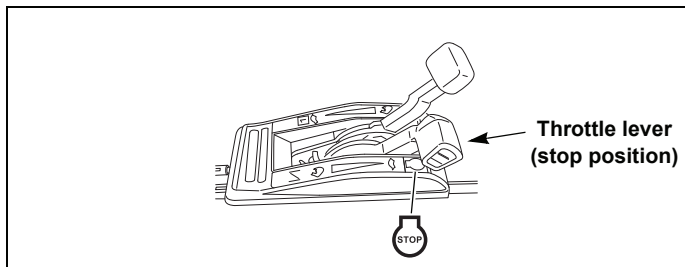
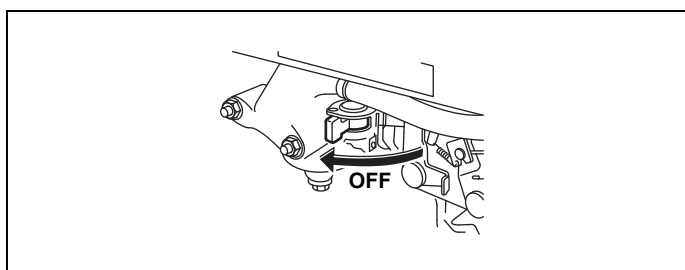

Fig. 4-23
Fig. 4-24
6. **To stop the engine:** Release the blade lever and the drive clutch lever. Set throttle to the "STOP" position. When engine has stopped, rotate the fuel cock to the "OFF" (closed) position. Fig. 4-23 and Fig. 4-24